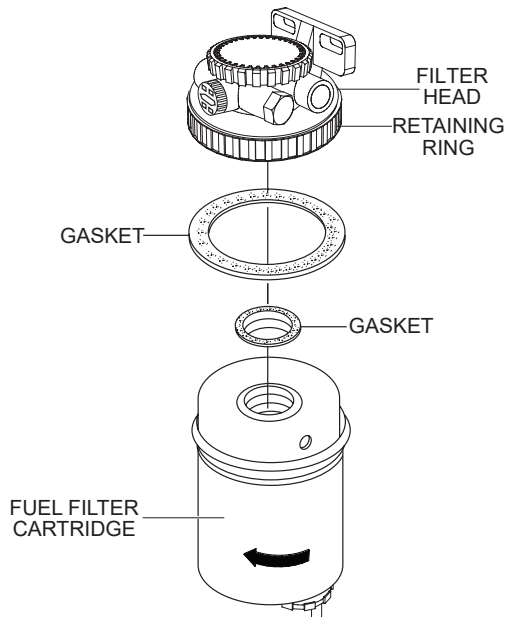

**Figure 69. Draining The Fuel Filter**
1. Loosen the **air bleeder plug** (Figure 69) on the fuel filter head.